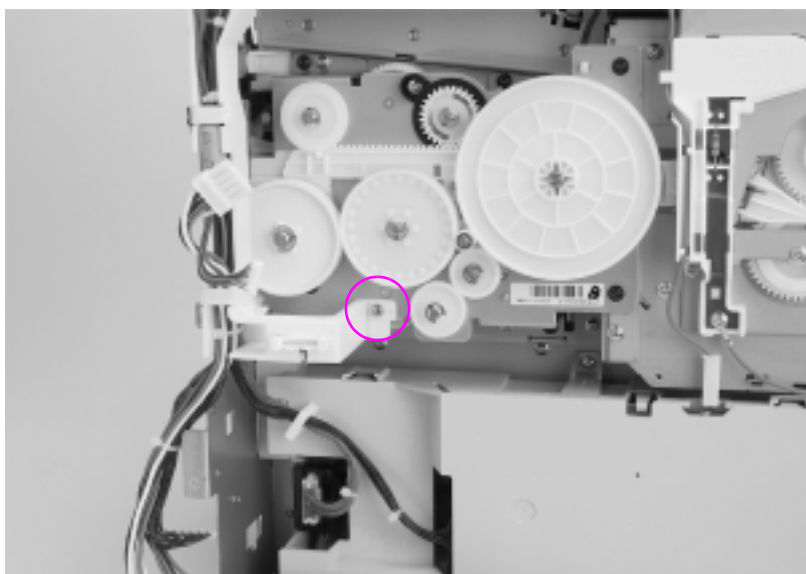

Figure 6-31
- 4 Remove the screw that secures the cable trough to the drum drive assembly as shown in Figure 6-31.